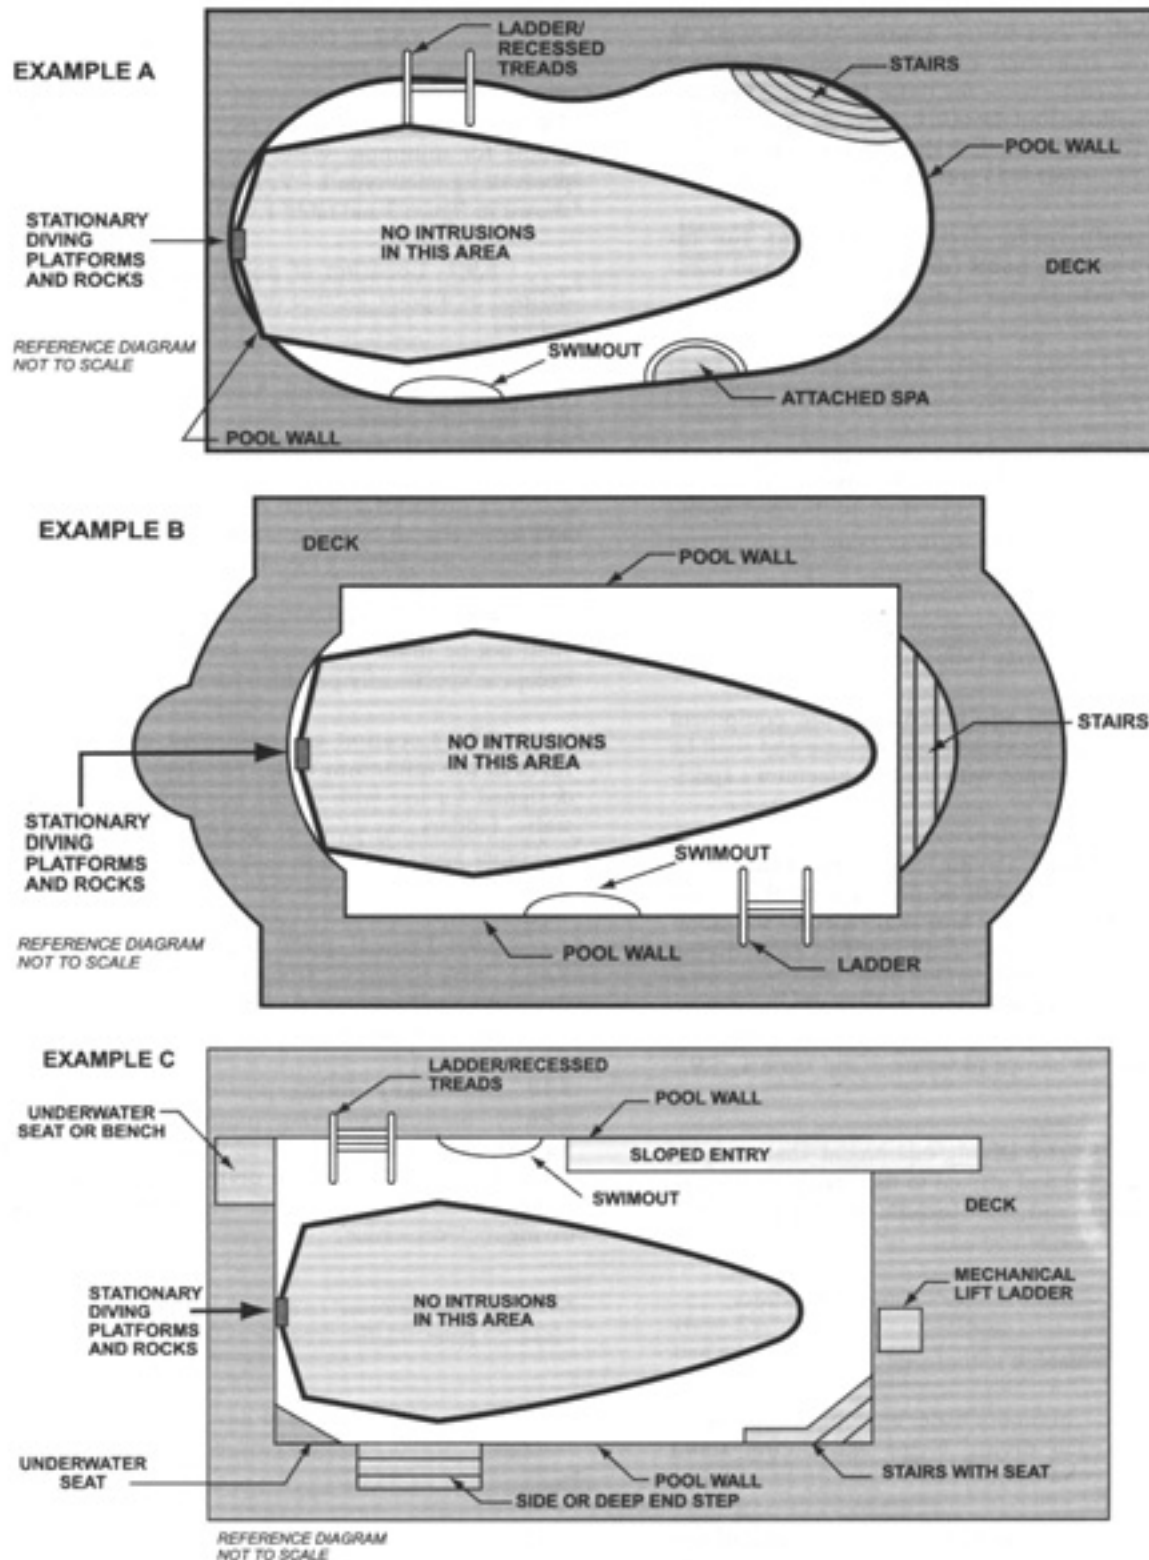

Figure 6 – Top view examples of accessory equipment and pool features prohibited in the water envelope
5.9.3 Location of equipment and pool features in the minimum water envelope. If the pool is designed for use with diving equipment, steps, pool stairs, ladders, underwater benches, special features and other accessory items shall be located outside the minimum water envelope. (See figure 6)